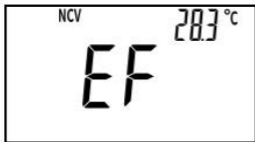

Figure 3
1. Set the rotary switch to the **NCV** position. The symbol " **NCV** " appears on the upper area of the screen. The primary display shows " **EF** ", the secondary display shows the environment temperature. (See Figure 3.)